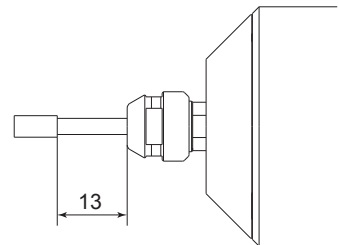

Fig. 15
- ① The proper surface speed for general grindstones is 10 - 30m / s.
- ② Do not exceed 13mm of overhang for mounted grindstones as shown in Fig.15.
- ③ If the overhang must exceed 13mm, reduce the air motor speed in accordance with Table.1.
- ④ Dress the grindstone prior to use.
- ⑤ Do not use cutting tools with bent or broken shanks, cracks or excessive run-out.
- ⑥ For grinding, the maximum depth of cut should not exceed 0.01mm radially or axially. Reciprocate the tool several times after each pass to eliminate tool pressure.
- ⑦ Always operate cutting tools within the allowable recommended speed of the cutting tools. Use of a cutting tool outside of the allowable speed of the cutting tools could cause damage to the spindle and injury to the operator.
- ⑧ Keep the cutting tool shank and collet clean. If contaminants are left in the collet or collet nut, excessive run-out will cause damage to the cutting tool and or spindle.
- ⑨ Do not strike or disassemble the Air Turbine Spindle.
- ⑩ Please set the cutting tools to minimize the overhang amount. 13mm is the maximum amount of overhang to maintain high accuracy and safety.